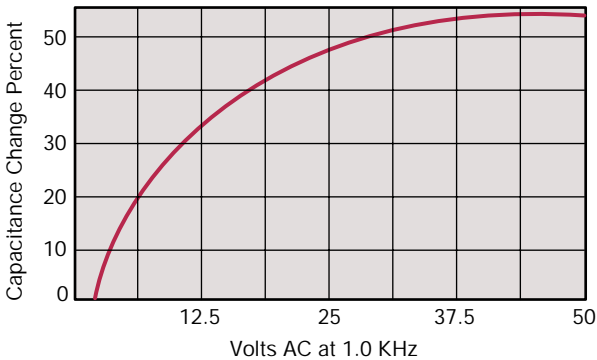

Figure 2
**Effects of Voltage** – Variations in voltage have little effect on Class 1 dielectric but does affect the capacitance and dissipation factor of Class 2 dielectrics. The application of DC voltage reduces both the capacitance and dissipation factor while the application of an AC voltage within a reasonable range tends to increase both capacitance and dissipation factor readings. If a high enough AC voltage is applied, eventually it will reduce capacitance just as a DC voltage will. Figure 2 shows the effects of AC voltage.